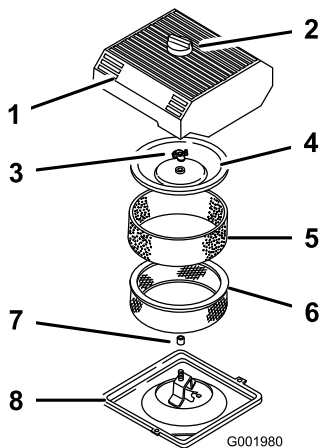

Figure 46
3. Clean around the air cleaner to prevent dirt from getting into the engine and causing damage (Figure 46).
4. Loosen the knob on the air cleaner cover and remove the cover (Figure 46).
5. Carefully slide the foam element off the paper element (Figure 46).
6. Unscrew the cover nut and remove the cover and paper element (Figure 46).
1. Carefully slide the foam element onto the paper air cleaner element (Figure 46).
3. Install the cover nut finger-tight against the cover (Figure 46).
4. Install the air cleaner cover and knob (Figure 46).